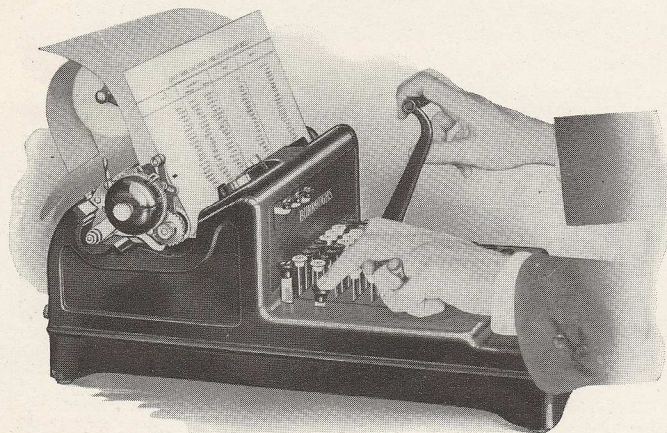

Figure 13—Printing Total
1. By the use of the Total or Sub-total keys at the left of the keyboard (Figs. 13 and 15). Depressing either of these keys instantly releases any amount which may be set up in the keyboard.